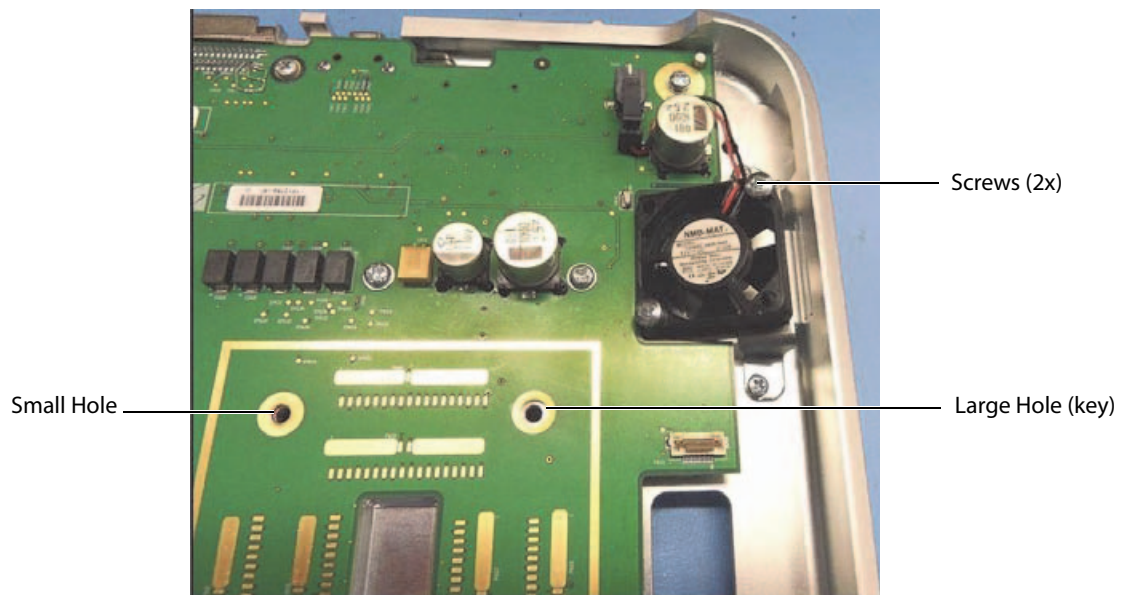

Figure 6.14 Fan Assembly Screws
- 2 Disconnect the power cable to the Fan Assembly and remove the 2 screws mounting the Fan Assembly. Refer to Figure 6.14.
The Nest Frame is keyed onto the Main PCBA via two smaller and two larger hole sizes. Installing incorrectly (180 degrees out) will result with the EDGE system unable to recognize any connected transducers. Refer to Figure 6.14.